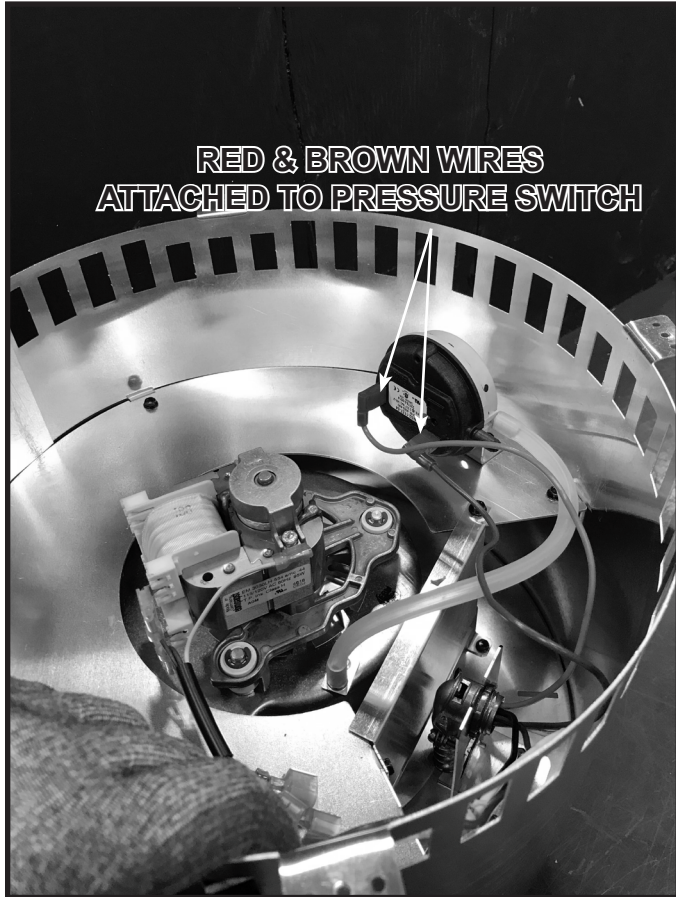

Figure 3.14
9. Attach the red and brown wires to the pressure switch. See Figure 3.14. Red or brown may be attached to either connector.